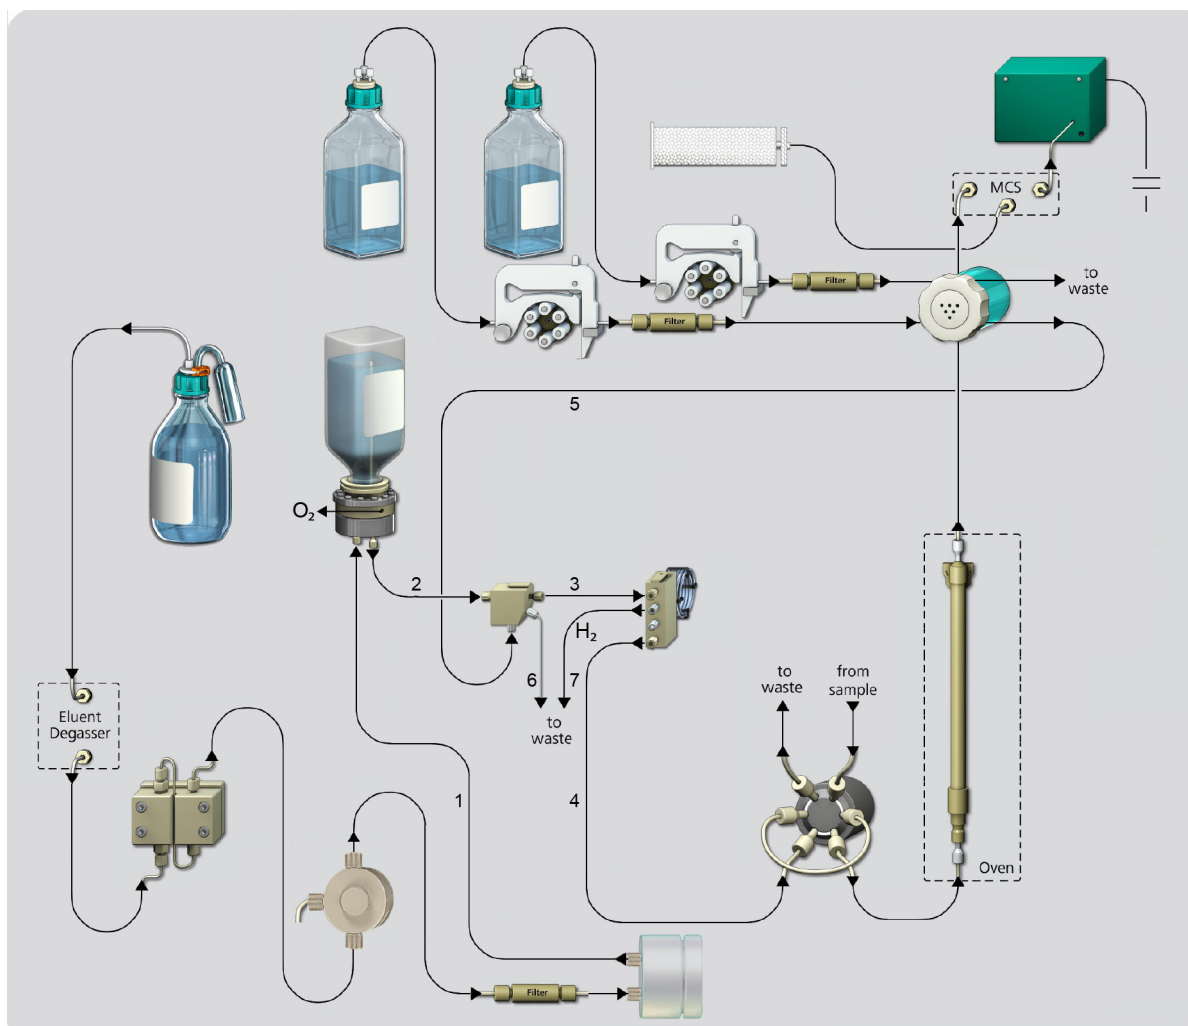

Figure 18 948 Continuous IC Module with conductivity detection and SeS – Flow path with external rinsing
- External rinsing (*see figure 18, page 35*):